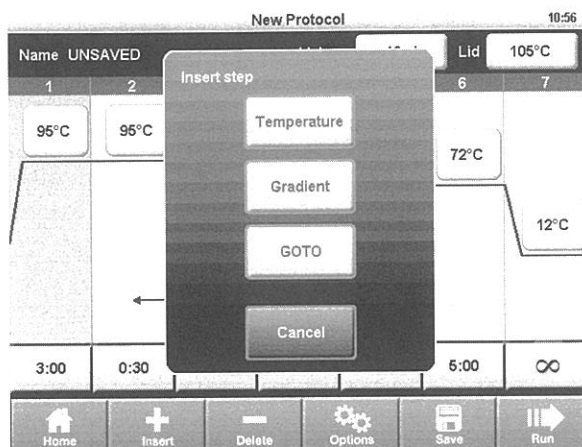

Figure 8. Insert a new step to the right of step 1.
2. Touch **Insert**. A pop-up menu displays types of steps to insert (Figure 8).